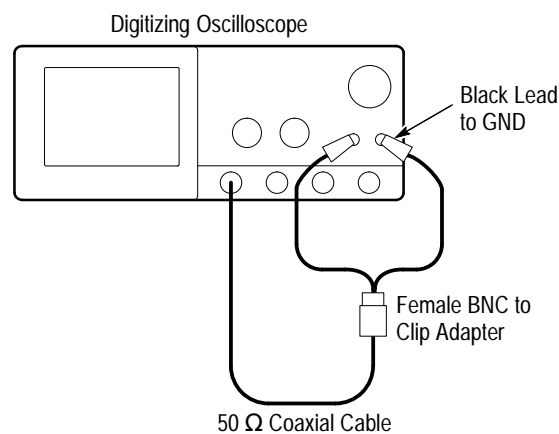

Figure 1–21: Initial Test Hookup
- Connect one of the 50 Ω cables to **CH 1**. See Figure 1–21.
- Connect the other end of the cable just installed to the female BNC-to-clips adapter. See Figure 1–21.
- Connect the red clip on the adapter just installed to the **PROBE COMPENSATION SIGNAL** on the front panel; connect the black clip to **PROBE COMPENSATION GND**. See Figure 1–21.